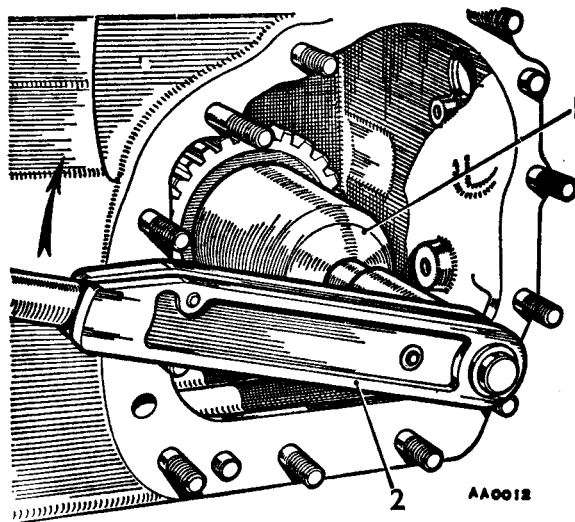
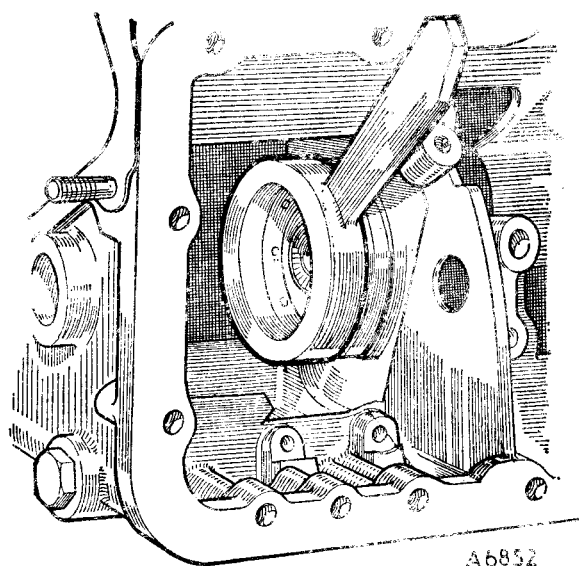

Fig. Fa.18
Fig. Fa.17
27. Use Service tool 18G 1095 to hold the top and reverse clutch splines (see Fig. Fa.17) and tighten the forward clutch hub nut with Service tool 18G 1096 and 18G 592 (see Fig. Fa.18), to the torque figure given in 'GENERAL DATA'.